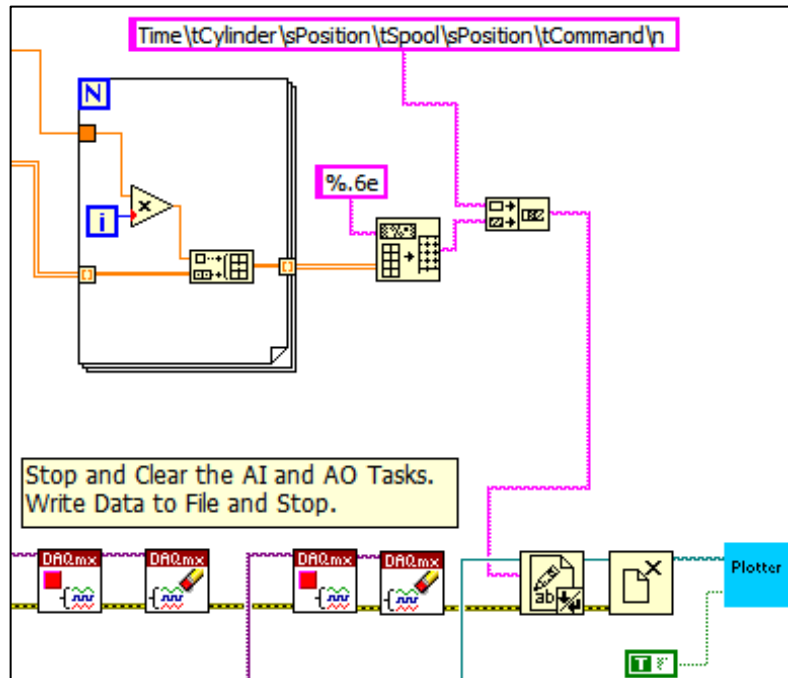

Fig 8. Segment to Record Data and Stop Execution
- Clicking the **Write File/Stop** button (turning it **ON**), **ends** the “while loop”, **stops** and **clears** the I/O **tasks**, **writes** the data to a text file, and **closes** the file. This segment of the code is shown in Fig 8.